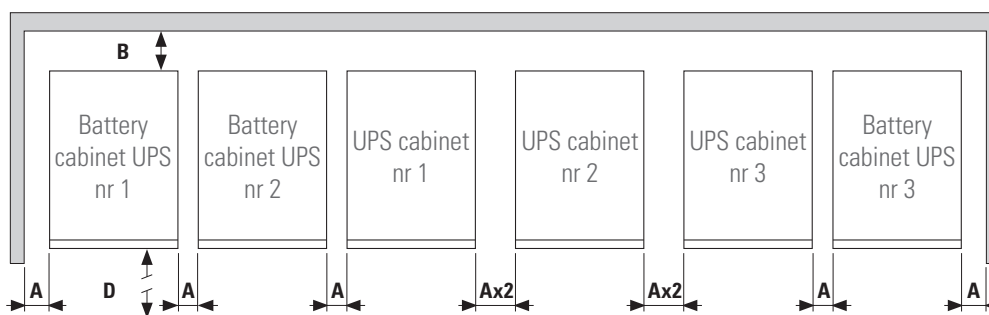

Fig. 15. Minimum distances for a correct UPS system cooling.
- As an example of three equipments in parallel, Fig. 15 shows them with their battery case. For systems with two equipments in parallel and/or more battery modules proceed accordingly in the same way.
The numbering of the equipments in Fig. 15 doesn't have any purpose less than number each unit in the illustration.